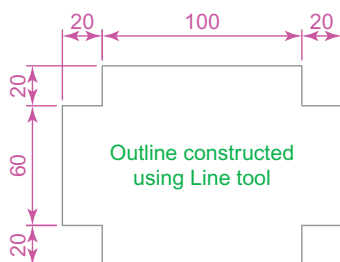

Fig. 12.9 First example – **Line** outline and **Region**
First example – Line outline & Region (Fig. 12.9)
2. Construct the left-hand drawing of Fig. 12.9 using the **Line** tool.
And the **Line** outline is changed to a **Region** – right-hand drawing in Fig. 12.9.